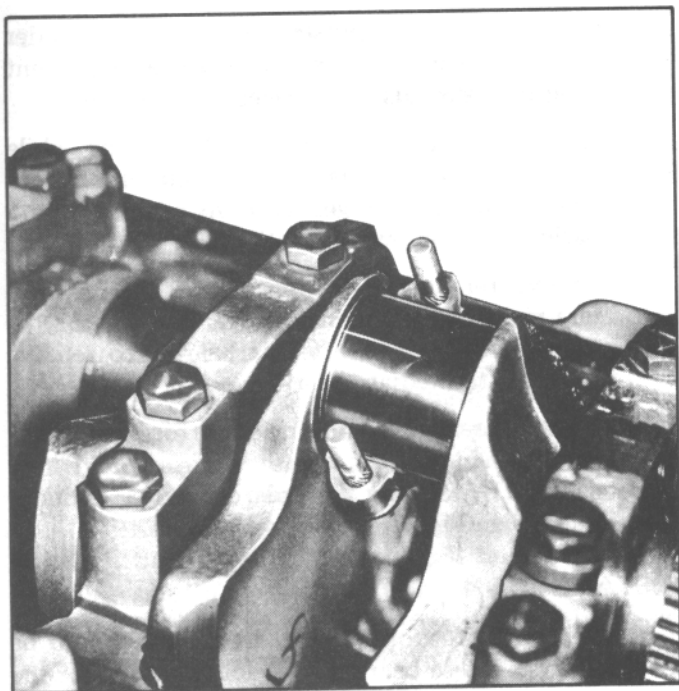

Fig. 87. Gauging Plastic on Crankpin
- (a) Place a piece of gauging plastic the full width of the crankpin parallel to the crankpin (Fig. 87).